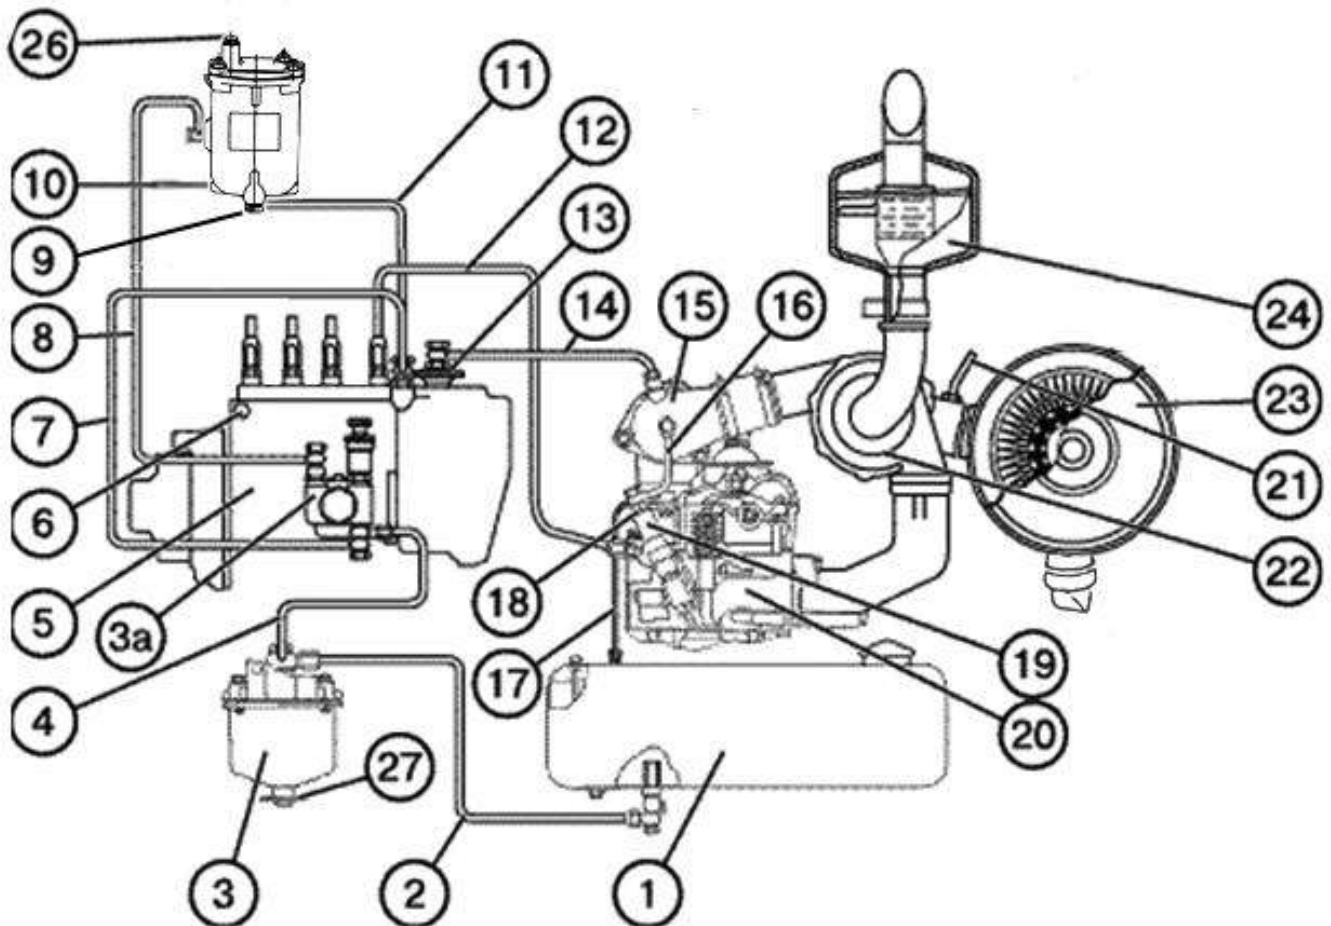

Fig E-1. Feed system diagram
**Fine fuel filter** (fig. E-1) has a replaceable paper filtering element. The filtering element is mounted in the filter housing.